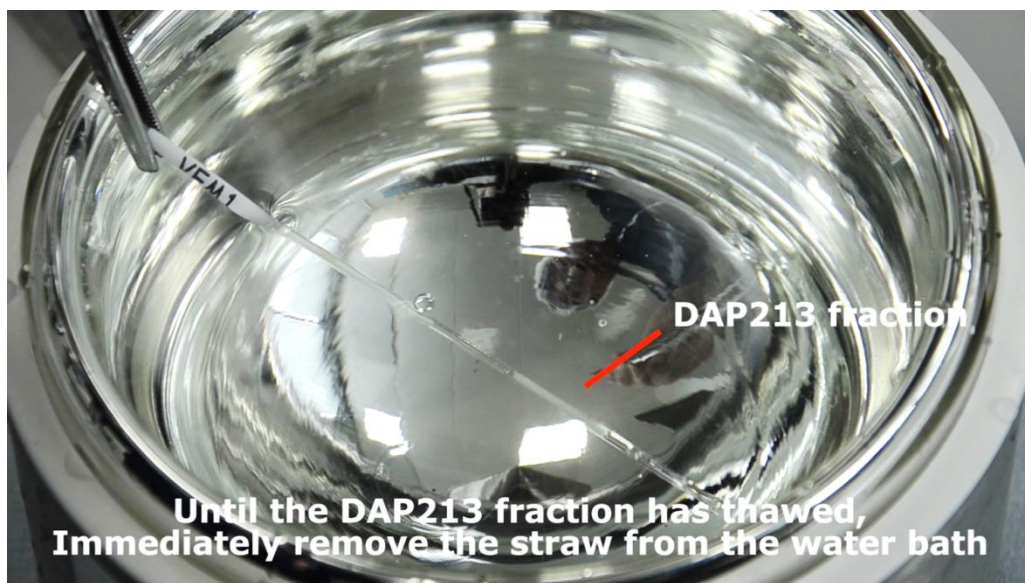

Figure 8.
4. Using forceps take the straw from the LN₂ and place it in a 37°C water bath (Figure 8). Once the DAP213 fraction has melted, remove the straw immediately from the water bath.